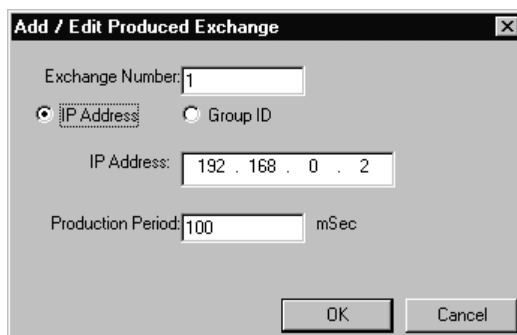

Figure 6.8 – Creating Produced Exchange 1 - Node 1
2. Click on the **Config** button next to the **EGD (Ethernet Global Data)** checkbox to open the Ethernet Global Data Configuration dialog (Figure 6.1 [page 32]) and click on the **Add Exch** button to create a Produced Exchange. Then, fill in the parameters for Node 1, as shown in Figure 6.8 below, and click **OK**.